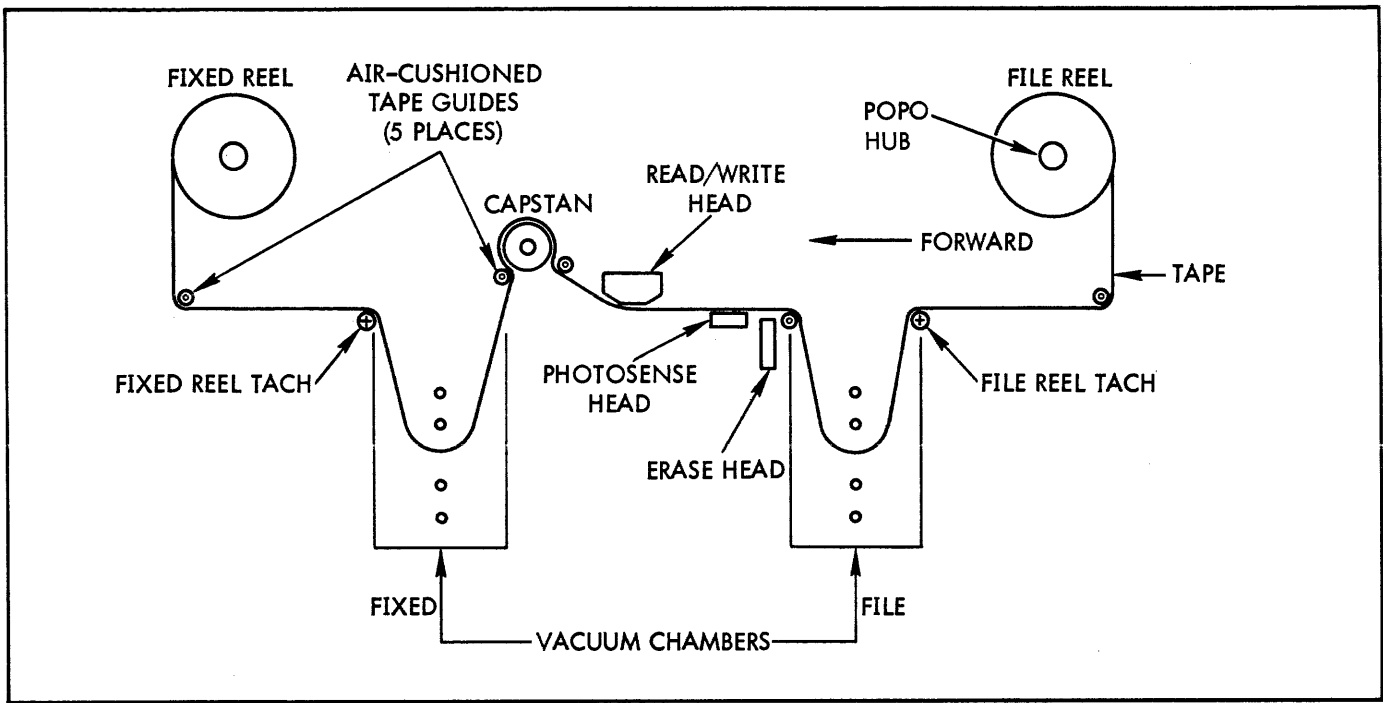

Figure 8. Magnetic Tape Transport Tape Path
The procedure for loading a magnetic tape transport is as follows (see Figure 8):
6. Thread the tape along the path shown in Figure 8. Wind two to four turns of tape onto the fixed reel. (Since the tape unit provides an automatic tape-loading feature, it is unnecessary to manually feed tape into the vacuum chambers.)